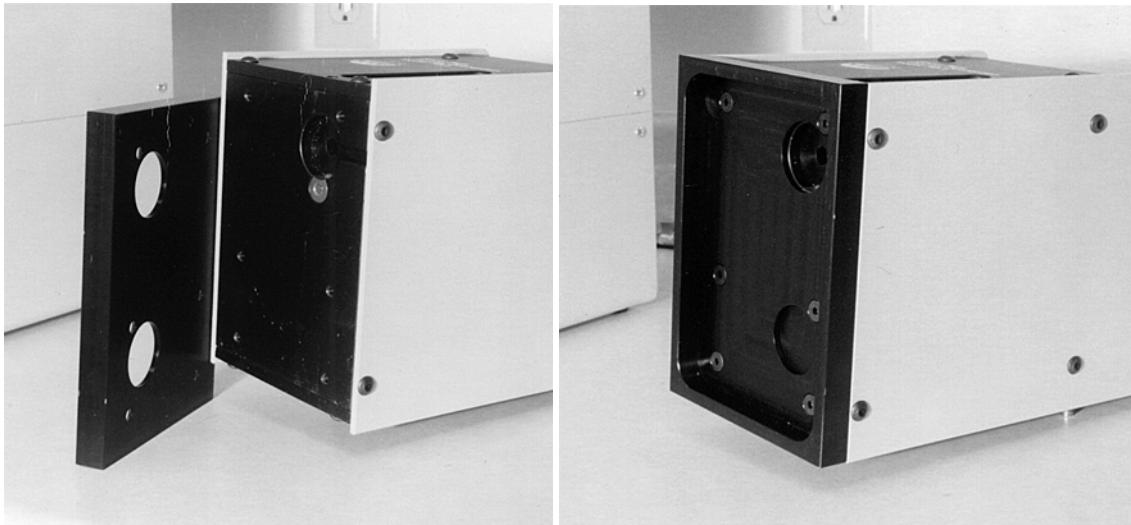

Figure 2-6 – Attaching mouting plate to Desorption Unit.
15. Attach the mounting plate (Part #78225) which is included with the Desorption Unit installation kit to the bottom of the Desorption Unit. The screws for securing this plate to the Desorption Unit are included with the plate. See Figure 2-6.